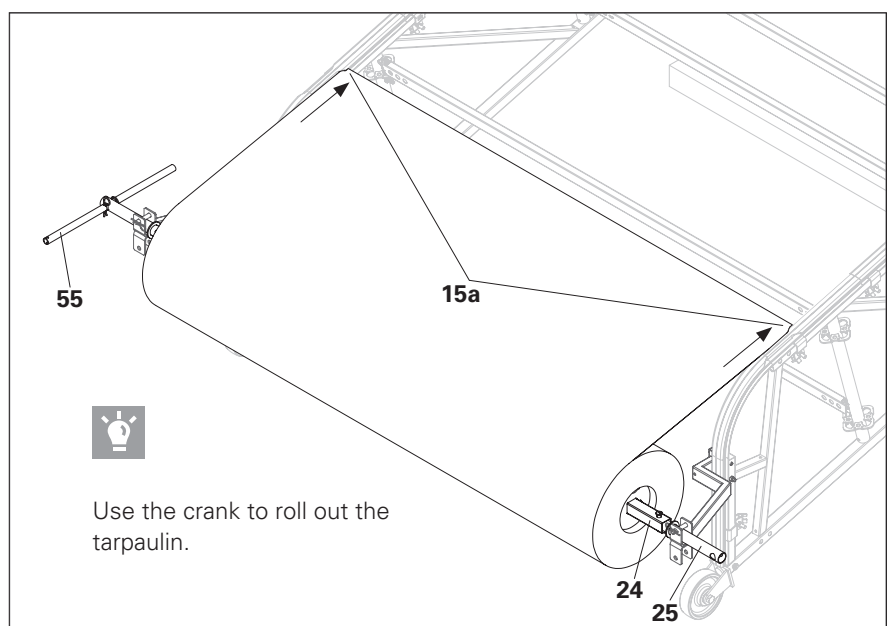

Fig. A5.02
1. Place the tarpaulin reel with the handles on both sides in the bearing plates of the reel connector. (Fig. A5.01a + Fig. A5.02)
3. Feed the keder cord (**24.2**) into the groove of the eave rails (**15a**). (Fig. A5.02)